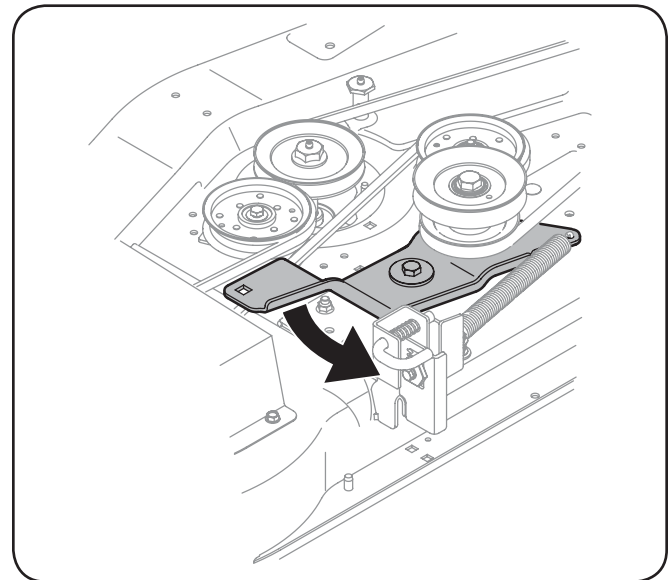

Figure 7-3
4. Pivot the wrench rearward to move the deck drive pulley forward. See Fig. 7-3.
4. Pivot the wrench rearward to move the deck drive pulley forward. Refer to Fig. 7-3
4. Pivot the wrench rearward to move the deck drive pulley forward and relieve tension on the deck belt. See Fig. 7-3.